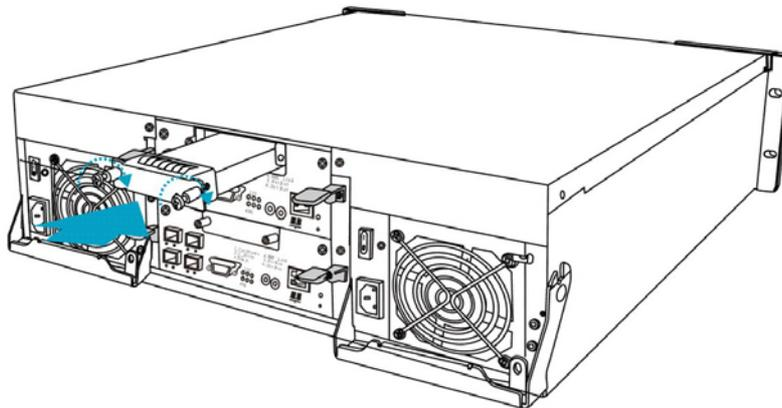

Figure 5-9: Installing the BBU
**Step 3.** **Secure the BBU to the subsystem** by fastening the two (2) retention screws. (See *Figure 5-9*)